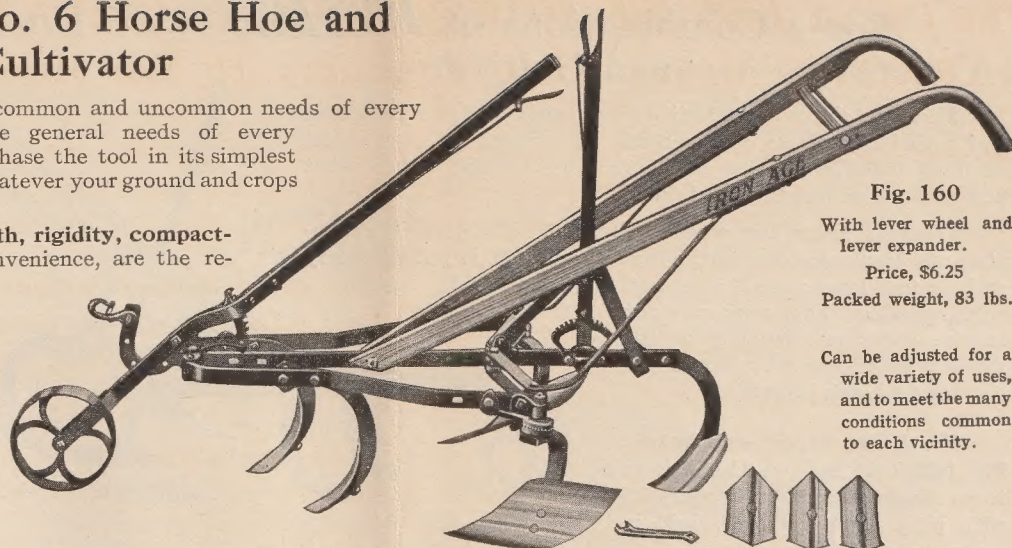

Fig. 160
**Lever wheel.** Fig. 160 shows this, at times, a very necessary attachment—regulates the working depth while in motion. Saves time.